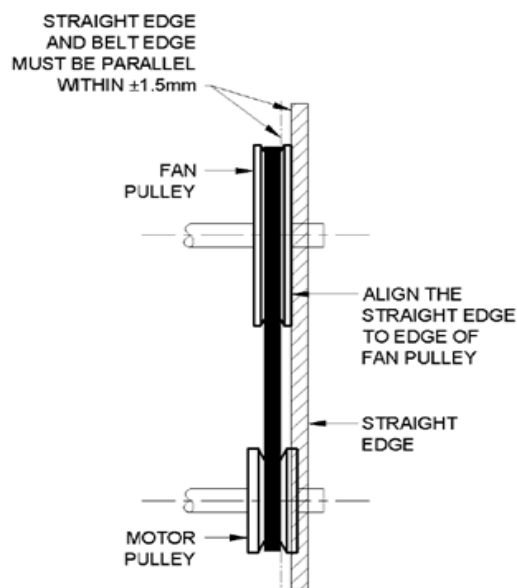

Fig. 9 Evaporator – Fan Pulley Alignment and Adjustment
3. Loosen movable-pulley flange setscrew (See Fig.9).